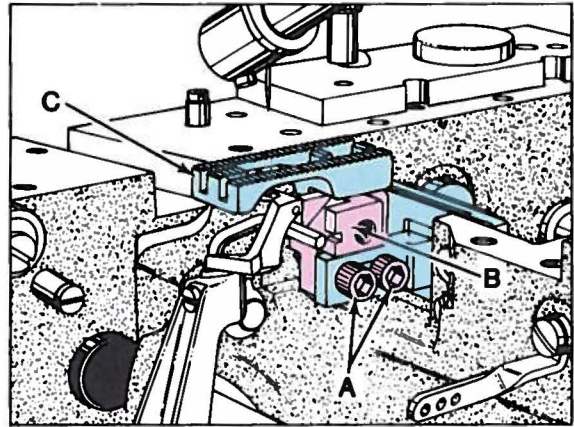
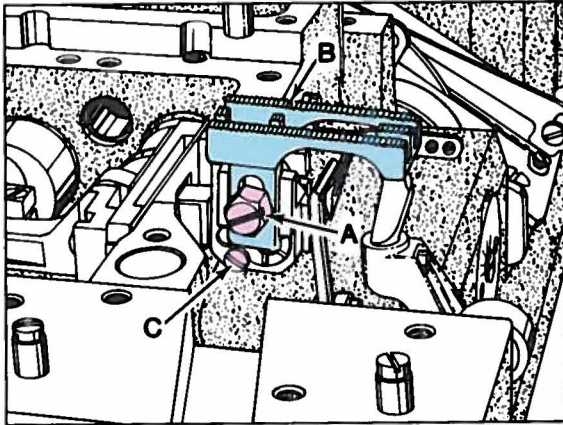
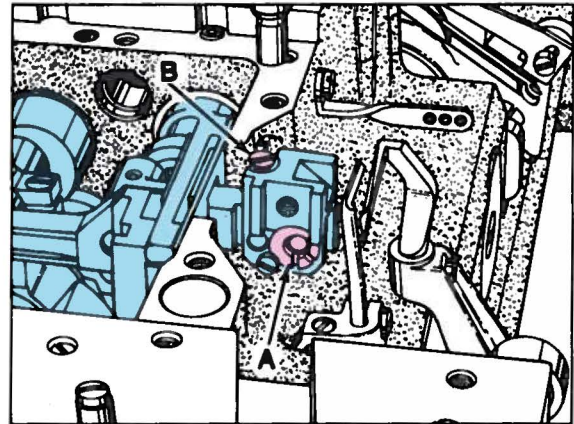

Fig. 13
Fig. 14
Fig. 15
Front to rear adjustments can be made by loosening two screws (A, Fig. 13), reposition feed dog holder (B) as required. Press down on front of feed dog (C) while tightening screws (A).
Parallel adjustment can be made by removing throat plate, loosen two screws (A, Fig. 13) and screw (A, Fig. 14) so feed dog (B) can be raised enough to loosen locking screw (C).
Turn feed dog tilting cam (A, Fig. 15) as required to level feed dog - check parallelism by positioning throat plate; retighten screw (C, Fig. 14) and screws (A, Fig. 13) while pressing down on front of feed dog.
Set feed dog to proper height with feed dog height supporting screw (B, Fig. 15) to maintain this setting; tighten screw (A, Fig. 14) while pressing down on front of feed dog. Replace throat plate.